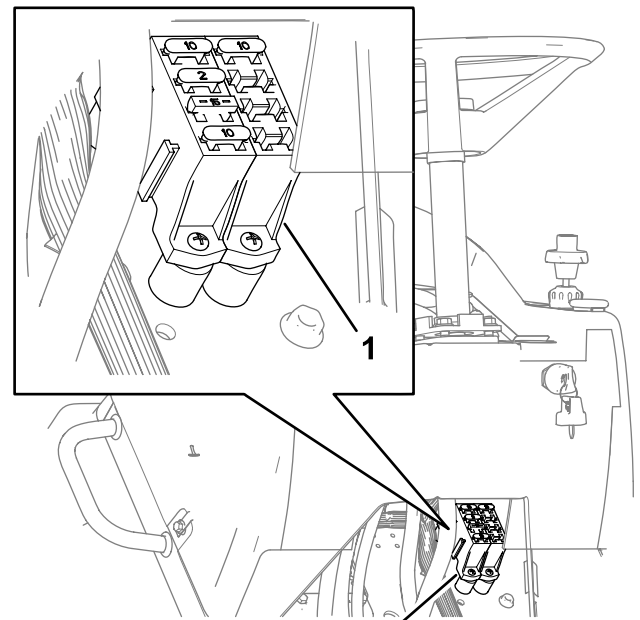

Figure 62
- Replace the open (blown) fuse in the fuse block with a new fuse that has an equivalent amperage value (Figure 62).